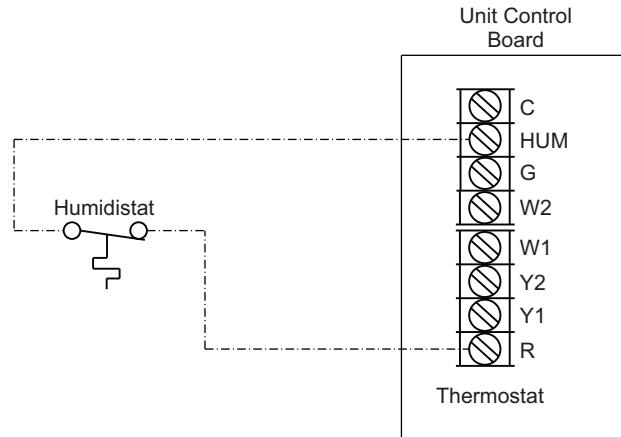

Fig. 39 — Humidistat Connections to UCB
5. Connect one of the leads from the 2-conductor cable to the HUM terminal on the UCB (Unit Control Board). Connect the other lead to the R terminal on the UCB. See Fig. 39.